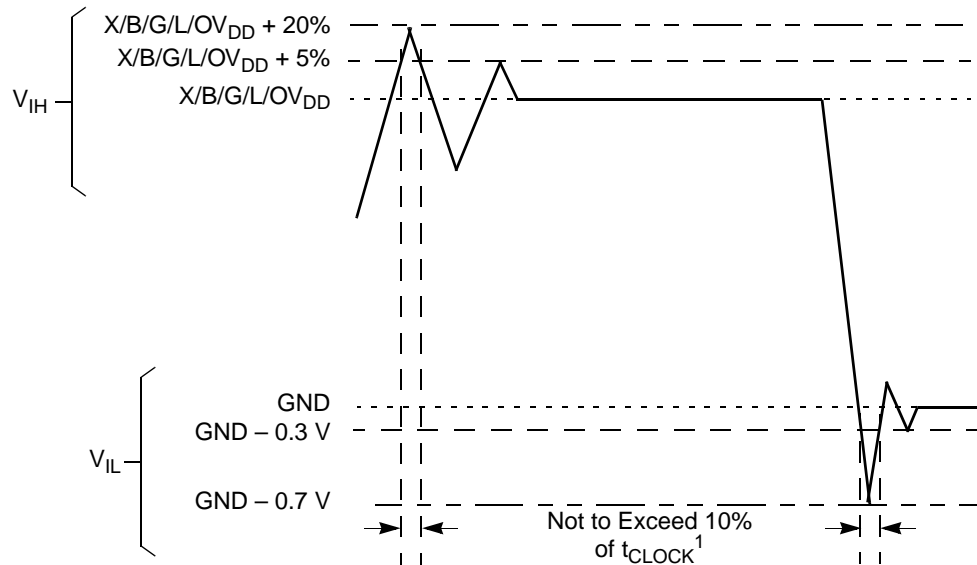

Figure 2. Overshoot/Undershoot voltage for $BV_{IN}/MV_{IN}/LV_{IN}/OV_{IN}/XV_{IN}$
- (X,B,G,L,O)VIN and MV_{REF} may overshoot/undershoot to a voltage and for a maximum duration as shown in Figure 2.
- (L,X,B,O,G) V_{IN} may overshoot (for V_{IH}) or undershoot (for V_{IL}) to the voltages and maximum duration shown in Figure 2.